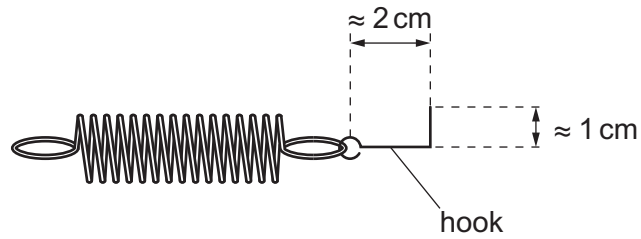

Fig. 1.3
- 3 Each spring should have a small wire hook attached at one end, as shown in Fig. 1.3. The hook should be made from steel wire of approximate diameter 0.8 mm (e.g. part of a small paper clip).